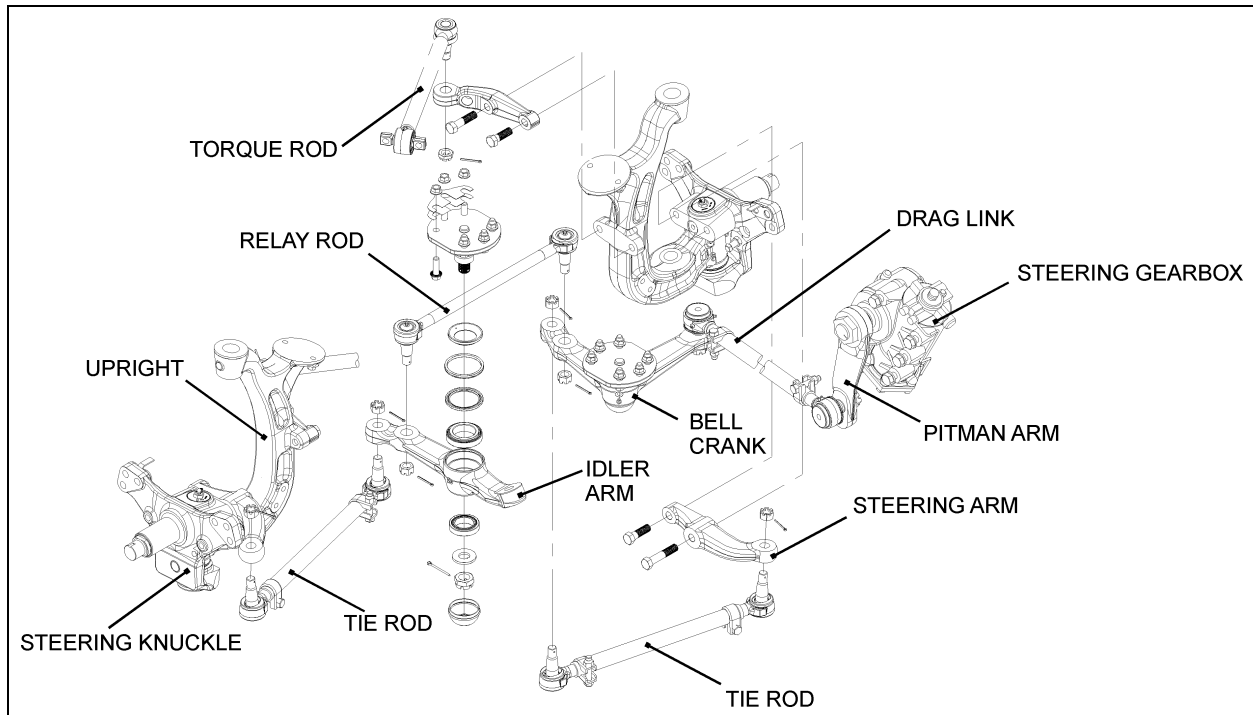

FIGURE 11: IFS STEERING LINKAGE OVERVIEW
2. While performing a full left and right turn, check for proper position of the tie rod end clamp bolt and nut and drag link end clamps in order to avoid clamps interfering with close parts. Refer to figure 11 for location and positioning of clamp bolts and nuts. Reposition if required.